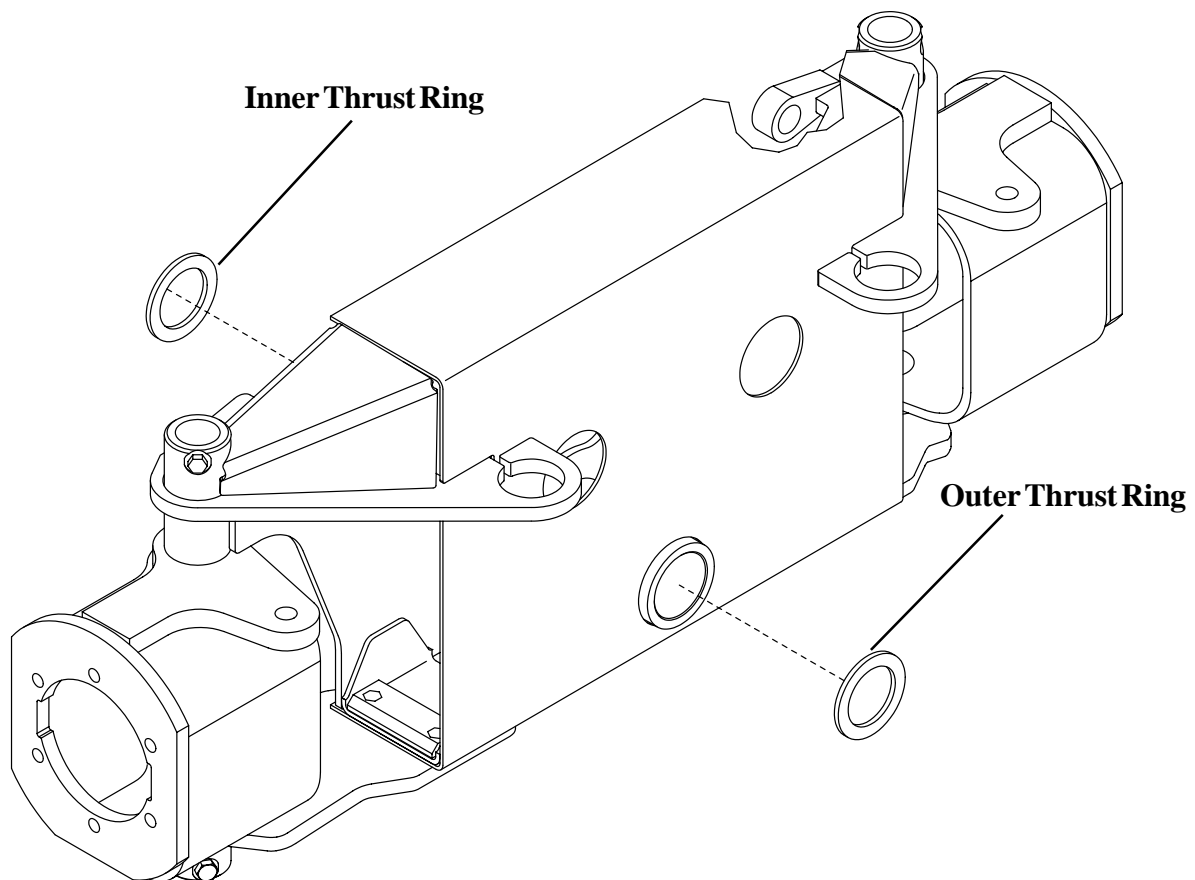

Figure 1
8. Remove the Front Axle Retaining Collar, Hardware and Outer Thrust Ring (Figure 1).
11. Install the supplied Inner Thrust Ring (P.N. 068869-001) on the Chassis Pivot Pin (Figure 1).
13. Install the Outer Thrust Ring (P.N. 068869-001) (Figure 1).